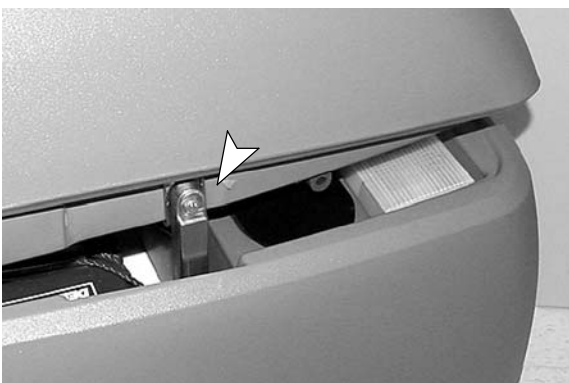

FIG. 34
- Rest the recovery tank on the support stand to promote ventilation during charging (Figure 34).